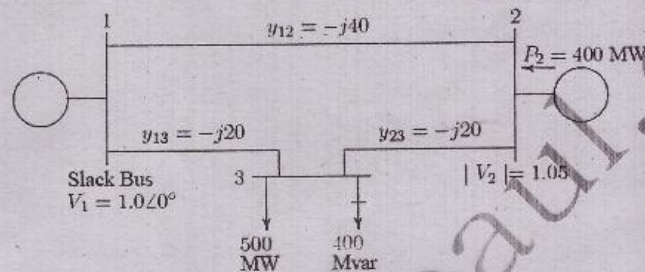

Fig. 2
12. (a) Figure 2, shows the one line diagram of a simple three bus power system with generation at buses at 1 and 2. The voltage at bus 1 is $V = 1 + j0.0$ V per unit. Voltage magnitude at bus 2 is fixed at 1.05 p.u. with a real power generation of 400 MW. A load consisting of 500 MW and 400 MVAR is taken from bus 3. Line admittances are marked in per unit on a 100 MVA base. For the purpose of hand calculations, line resistances and line charging susceptances are neglected.